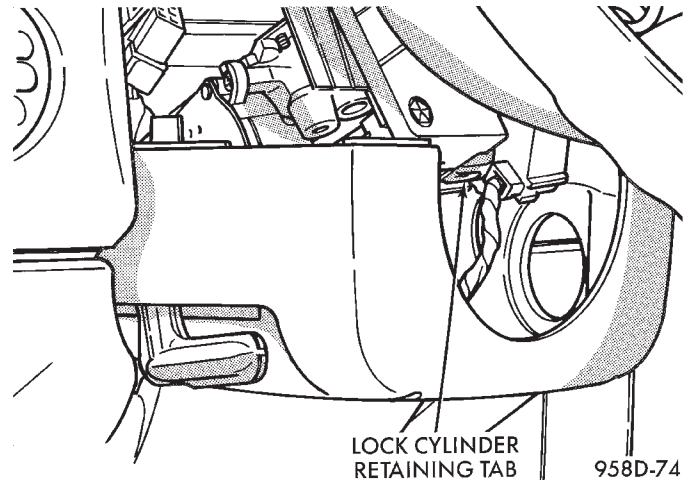

Fig. 66 Lock Cylinder Retaining Tab
- (1) Disconnect negative cable from auxillary jumper terminal.
- (2) Remove upper steering column shroud.
- (3) Pull lower shroud down far enough to access lock cylinder retaining tab.
- (4) Place key cylinder in RUN position. Depress retaining tab and remove key cylinder (Fig. 66).